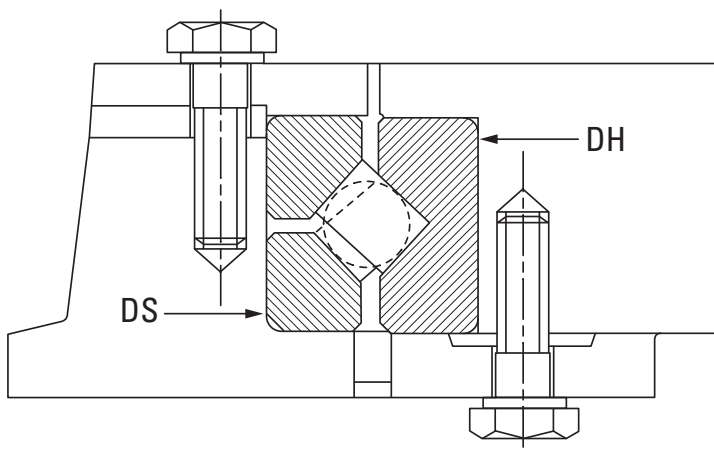

Fig. 122. Fitting and setting of TXR bearings.
The bore of the housing (DH) and the diameter of the spigot (DS) (fig. 122) should be machined to give a mean of the suggested interference fits (pages 170-171).
The bearing is adjusted externally by segments beneath the top inner-ring clamping plate (fig. 122) to get the required preload.